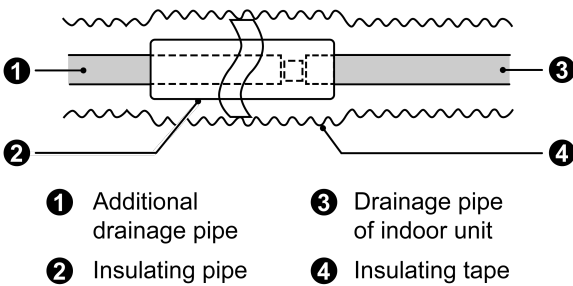

Fig.4.3.1
- (1) It is not allowed to connect the condensate drain pipe into waste pipe or other pipelines which are likely to produce corrosive or peculiar smell to prevent the smell from entering indoors or corrupt the unit.
- (2) Incorrect installation of the indoor unit may result in inadequate drainage, potentially causing bacterial growth and associated health hazards. Inadequate drainage may also lead to corrosion of the unit
- (3) Setting the unit at an angle opposite to the drain piping might cause leaks.
- (4) It is not allowed to connect the condensate drain pipe into rain pipe to prevent rain water from pouring in and cause property loss or personal injury.
- (5) Condensate drain pipe should be connected into special drain system for air conditioner.
- (6) The drainage pipe should be short and the gradient downwards should be at least 1%~2% in order to drain condensation water smoothly.
- (7) The diameter of drainage hose should be bigger or equal to the diameter of drainage pipe joint.
- (8) Install drainage pipe according to the following Fig. and arrange insulation to the drainage pipe (Fig.4.3.1). Improper installation may lead to water leakage and damp the furniture and other things in the room.
- (9) You can buy normal hard PVC pipe used as the drainage pipe. During connection, insert the end of PVC pipe into the drainage hole and then tighten it with drainage hole and wire binder. Can't connect the drainage hole and drainage hole with glue.
- (10) When the drainage pipelines are used for several units, the position of pipeline should be